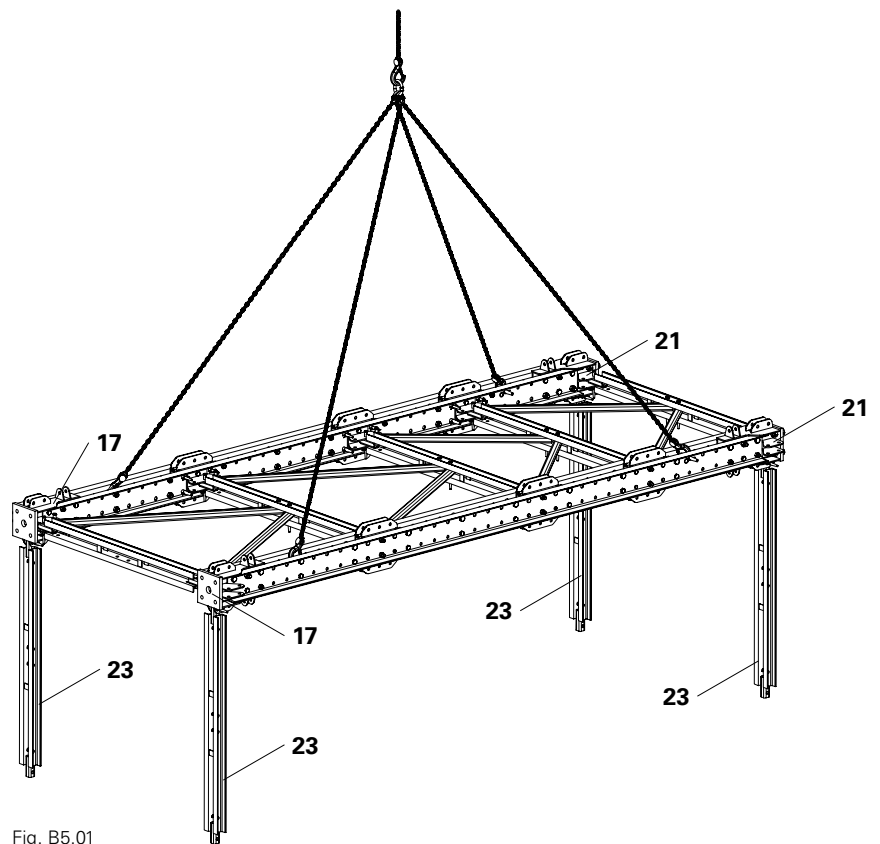

Fig. B5.01
2. On each side, connect 1x Horizontal Ledger VST 200 (23) to the Prop Bases VST 48 (17) and Prop Connectors VST 48 (21) by means of 1x Fitting Pin \varnothing 21 mm (9) respectively. (Fig. B5.01)